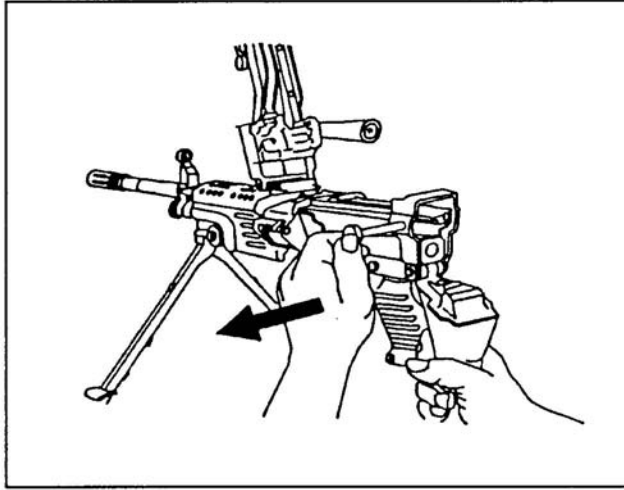

Figure 071-312-4025-1. Rear opening of the receiver
- (1) Raise the cover assembly. Pull the upper retaining pin at the rear of the receiver to the left. Let the butt pivot downward so the rear opening of the receiver is clear (figure 071-312-4025-1).